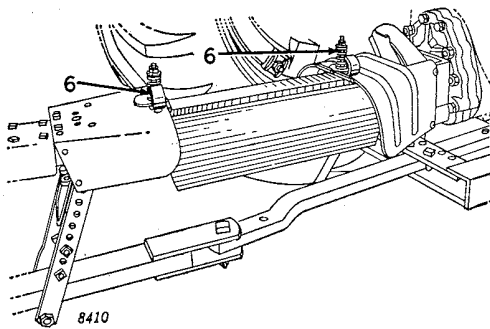

Figure 13
6. (Figure 13) Attach universal joint and pipe connections shield to take-off shaft shield on tractor and to shield on power shaft front bearing as shown.